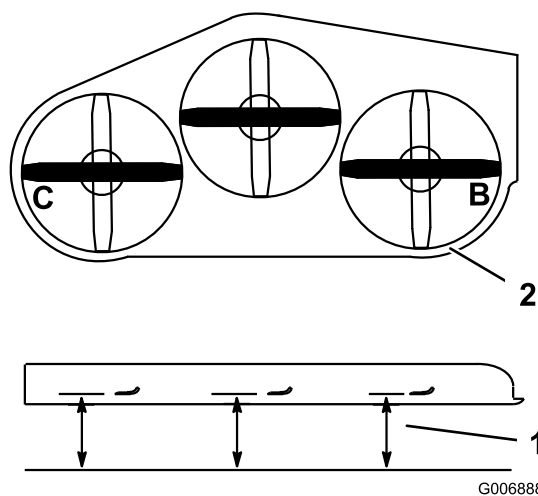

Figure 73
2. Measure at the **B** and **C** locations from a level surface to the cutting edge of blade tips (Figure 73).